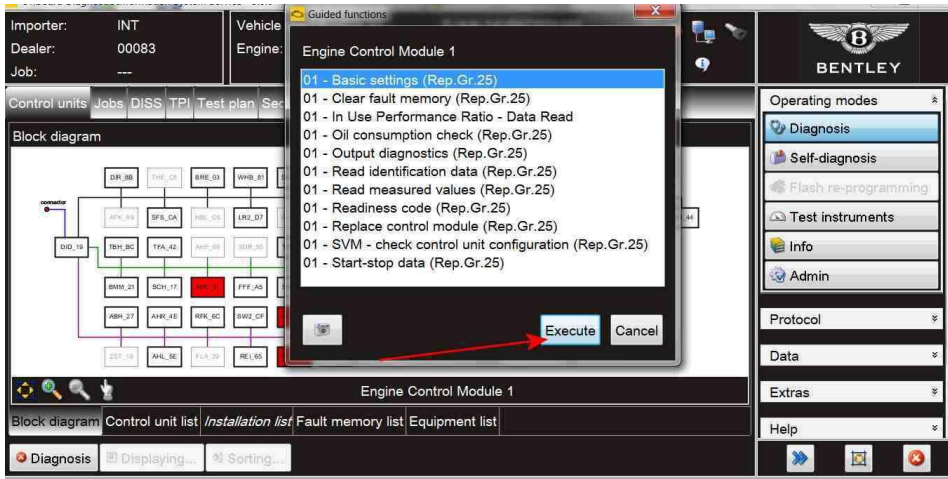

Figure 3
2) Referring to Figure 3 - Navigate to the Engine control module 1